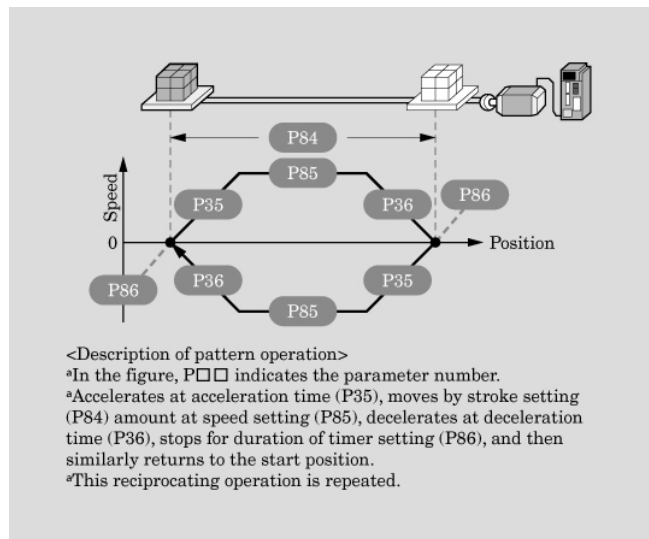

Figure 3. Pattern operation
- Pattern operation. The amplifier can generate a motion pattern (as shown in figure 3), that performs reciprocal movements (forwards and backwards). In this motion pattern the stroke, speed, acceleration and deceleration can be set. In a real application this allows to verify the operation of the servo (overload level, motor suitability,...) before the upper-level controller (motion controller) is ready.